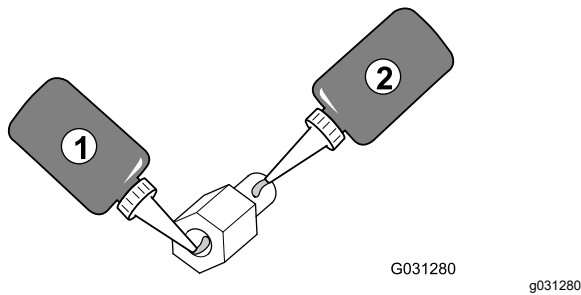

Figure 12
for the nut part of the threaded standoff (Figure 12).
4. Apply a coat of thread-locking compound (wicking—medium-high strength) to the threads for the stud portion of the threaded standoff (Figure 12).